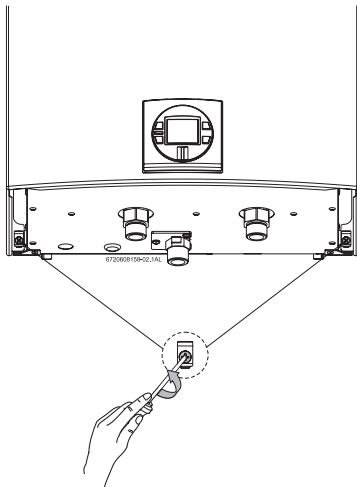

Fig. 3 Loosen the two screws
- Loosen the two Philips head screws located on bottom rear of cover (see Fig. 3).